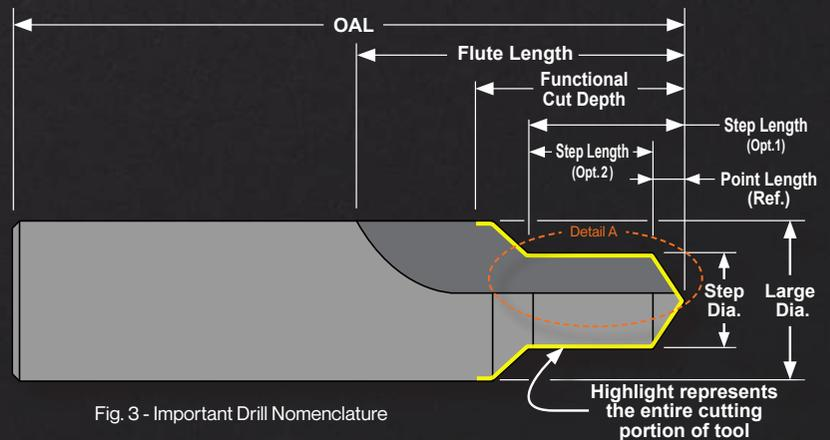

Fig. 3 - Important Drill Nomenclature
Some Important Measurements - Since we produce a large number of step drills for our clients, we felt it would be prudent to address several crucial issues related to our tools and drilling in general. Let's start by discussing the metrics and how they vary from end mill measurements (Fig. 3).
• **Cutting Depth** - The length of the cut and the functional cut depth are usually considered equal. All of our prints, as shown in Fig. 3, properly mark the area the tool is cutting (yellow in this example, bold on our prints). Please specify the exact dimensions, angles, and edges you intend to cut on any unique tool quote requests you make.